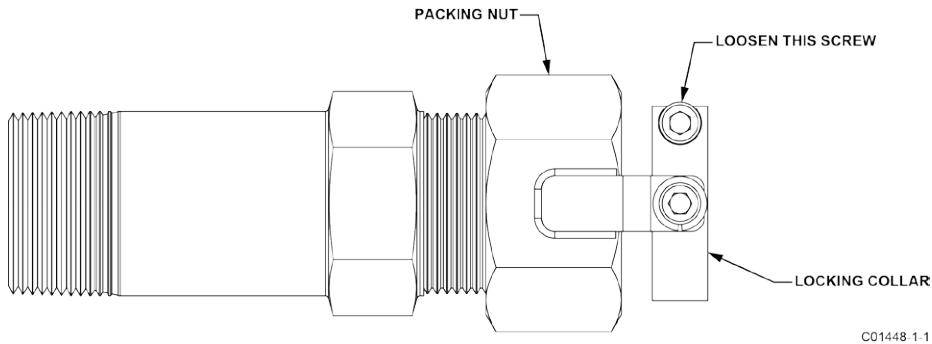

Figure 7 – Packing Gland Locking Collar
- Loosen the socket head cap screw on the side of the locking collar. See Figure 7 below.
- b. Loosen the socket head cap screw on the side of the locking collar. See Figure 7 above.